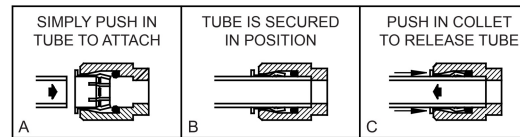

FIG. 6
2. **Actuation of Quick Connect Water Fittings:** Cooler is provided with lead-free connectors which utilize an o-ring water seal. To remove tubing from the fitting, relieve water pressure, push in on the gray collar while pulling on the tubing (See Fig. 6). To insert tubing, push tube straight into the fitting until it reaches a positive stop, approximately 3/4".